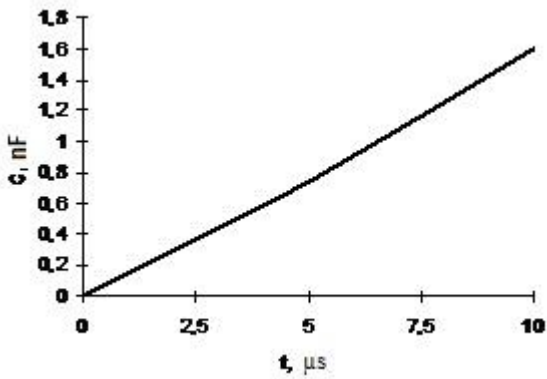

Figure 9 – “Dead time” duration dependence versus nominal capacity  $C_{TD}$
**CDT H1, CDT H2, CDT L1, CDT L2** – adjustment capacitors of relevant controlled transistor turn-on duration delay (“dead time” duration for switching). Delay for switching in a missing capacitor will be 0  $\mu\text{s}$  and “dead time” for switching will absent. Initially installed capacitors are relevant to “dead time” of 2.5  $\mu\text{s}$  (tuning presets at supply). Duration dependence of “dead time” from present capacitors nominal is shown on Fig. 9.